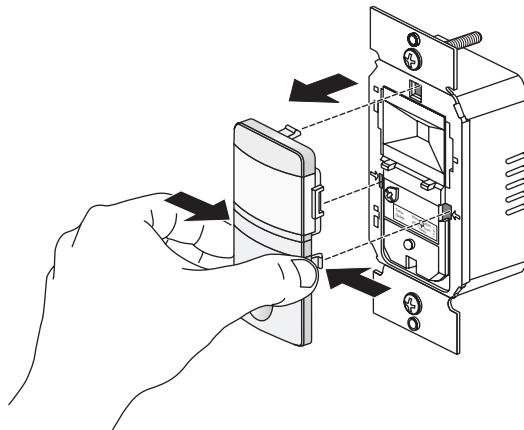

Fig 5: Remove Front Cover
2. Firmly grasp the edges of the front cover directly below the lens where it says “open” (see Fig. 5). Push in one side first until it pops out, then the other side. Remove front cover from the unit.
2. Firmly grasp the edges of the front cover directly below the lens where it says "open." Push in one side first until it pops out, then the other side. Remove front cover from the unit (see Fig. 5).